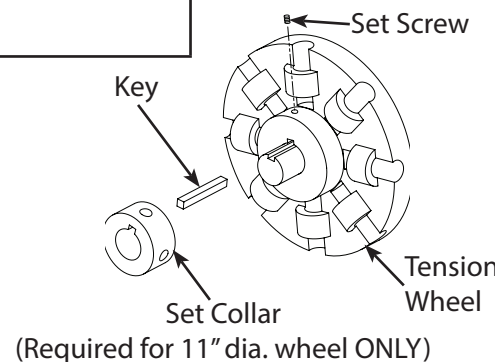

**Figure 11a**
- Use a 3/8 or 1/2 key to secure Tension Wheel to shaft. See Figure 11a and 11b.